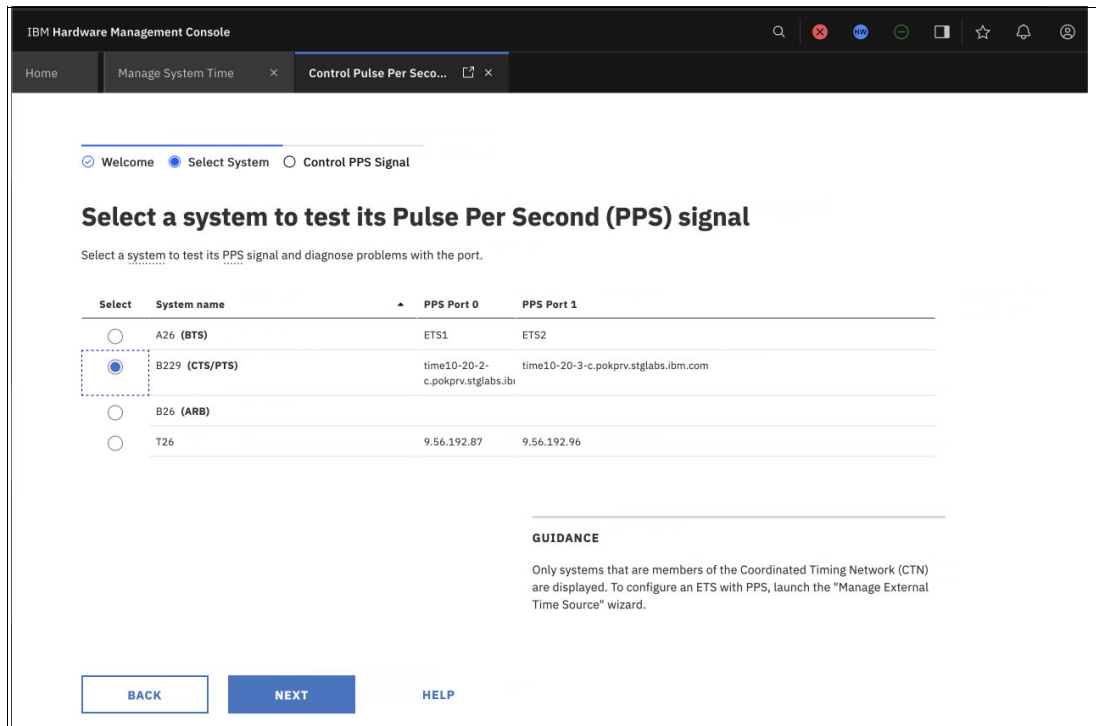

Figure 4-61 Select system to test PPS
3. Select the system for which you want to test the PPS signal. The example uses server B229, as shown in Figure 4-61 on page 102.